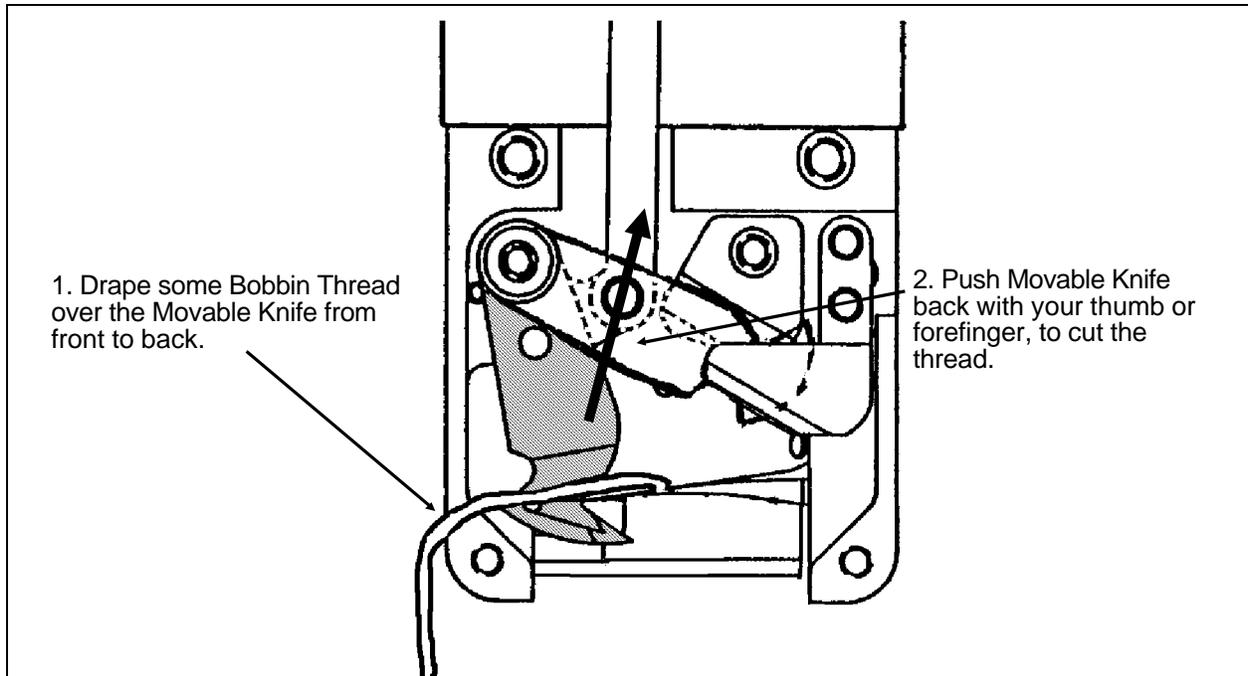

Fig. 4-10 Checking The Cut
2. Leaving the Bobbin Case in the Rotary Hook, pull off some Bobbin Thread, and drape it over the Movable Knife. See Fig. 4-10.